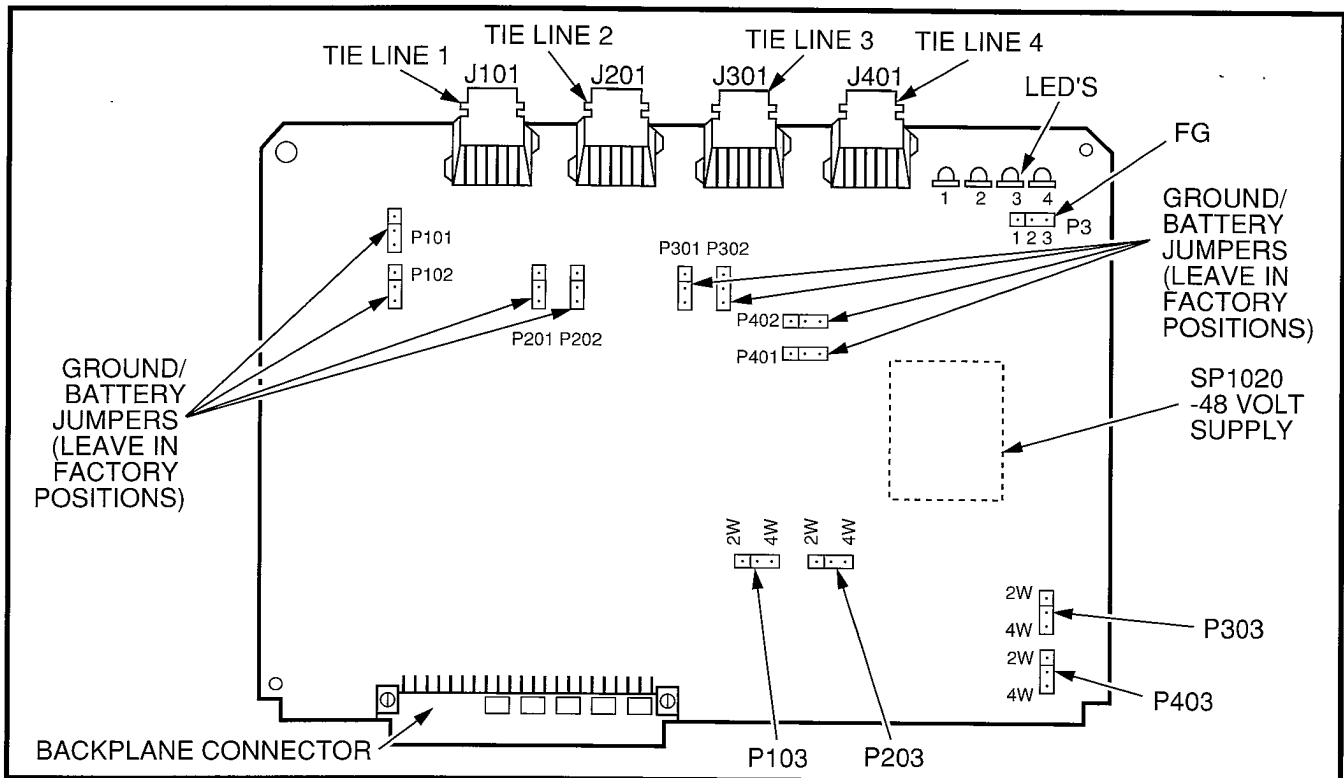

FIGURE 6-9—PEMU CONTROLS AND INDICATORS
8.02 PEMU controls, indicators, and interface connectors are shown in Figure 6-9 and described in Table 6-F.